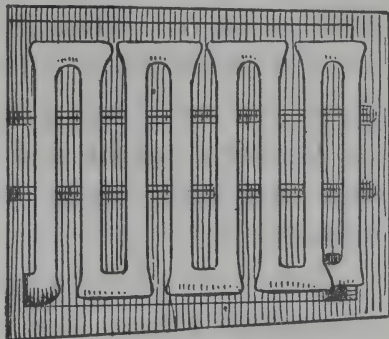

Fig. 106
28. *The Moore Light*.—In 1896 Prof. D. McFarland Moore brought out his vacuum tube light (Fig. 106). We visited an ordinary dry goods store which had been equipped with this. Glass tubing is put together very much as one would put up a stove pipe or a job of plumbing. The joints are